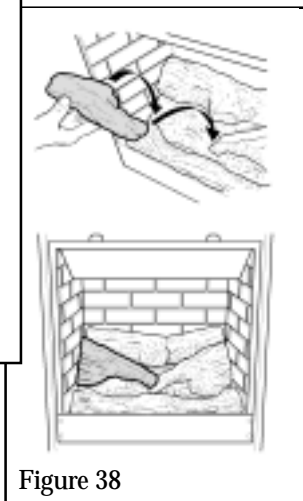

Figure 38
5. Place the left side log on base log at the left side. Locate its nose tip behind the nose of the right side log. ***It is important that the narrow nose does not drop down to touch the burner.*** See figure 38.